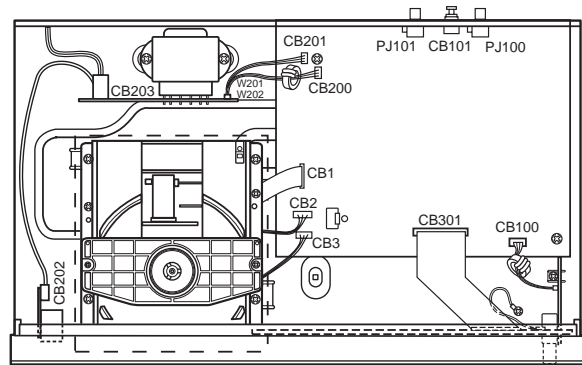

Fig. 2
- a. Press the OPEN/CLOSE key and open the tray. Then remove the Lid attached to the front edge of the tray in Fig. 2.
- b. Remove 3 connectors (CB100, CB202, CB301) in Fig. 2.
- a. Remove 3 connectors (CB1, CB2, CB3) in Fig. 2.